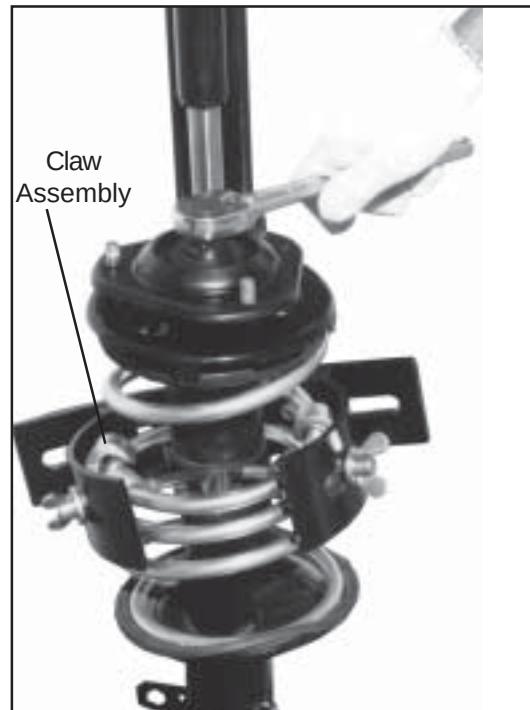

Figure 10
2. Secure the spring with claws of spring clasp (refer Fig. 10).